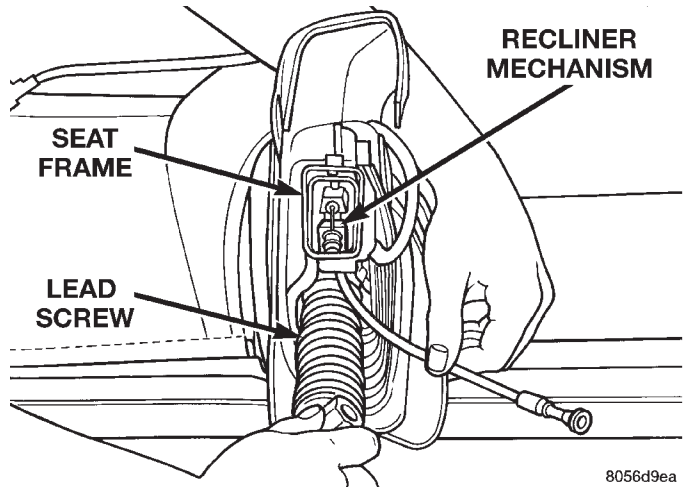

Fig. 6 Recliner Lead Screw
- (11) Remove seat cushion assembly.
- (12) Remove E-clip and washer from easy-entry rod at inboard side of seat, passenger side only.
- (13) Separate rod from seat back.
- (14) Remove pivot bolts holding seat back to seat frame.
- (15) Remove bolt holding recliner lead screw to seat frame.
- (16) Separate seat back from seat frame.
- (17) Unscrew lead screw from recliner mechanism (Fig. 6).
- (1) Screw recliner lead screw into recliner mechanism. (Fig. 6).